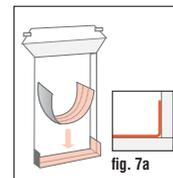

fig. 7
- Remove the release paper, cover the horizontal sill by aligning flashing tape to the inside edge of sill and adhere into rough opening along the sill and up the jambs a minimum of 6". **(fig. 7 & 7a)**